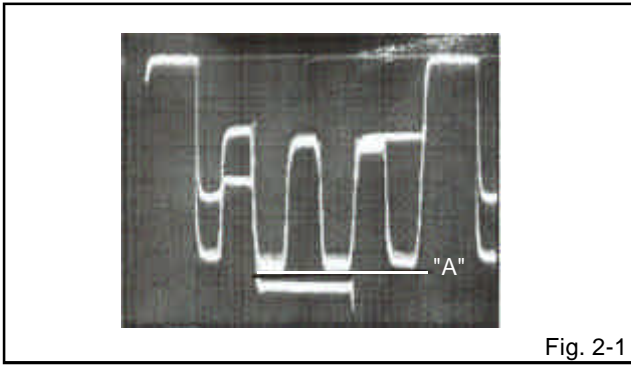

Fig. 2-1
4. Press the VOL. UP/DOWN button on the remote control until the section "A" becomes as straight line (**Refer to Fig. 2-1**)